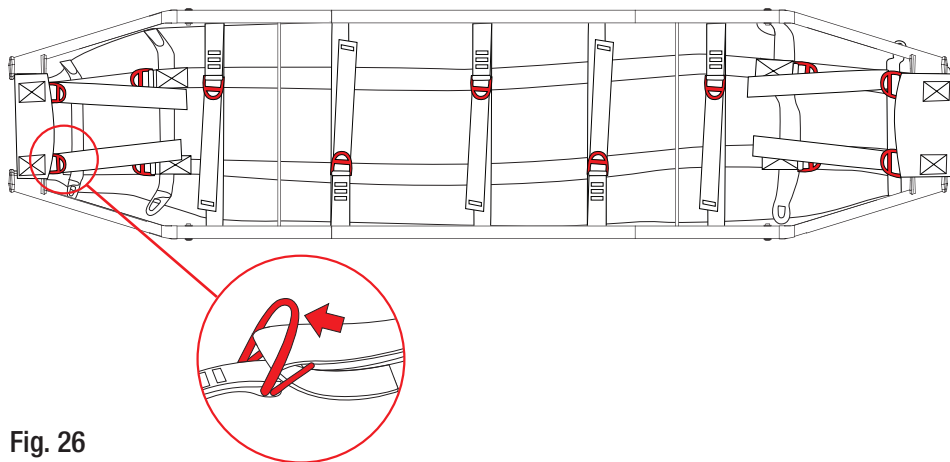

Fig. 26
- b) loosen the transversal and longitudinal belts (fig. 26) and remove them from the through elements;